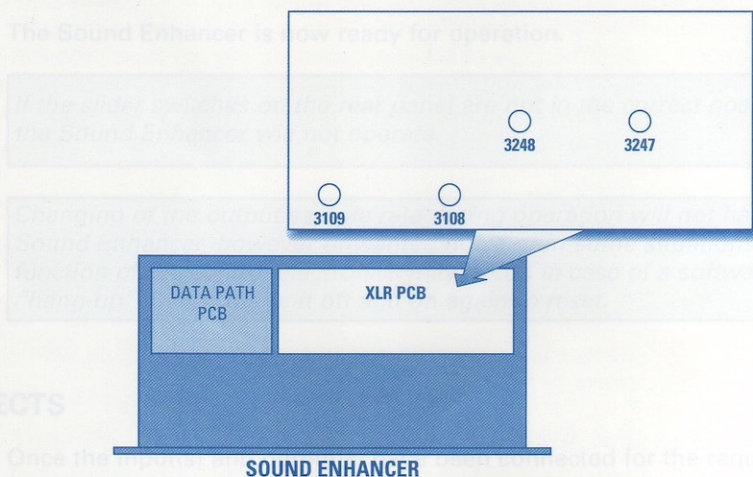

Figure 4.2: Location of trimpots.
4. Locate XLR PCB (refer to figure 4.2).
4. Locate X1 (2) and X2 (2) (see figure 4.2).